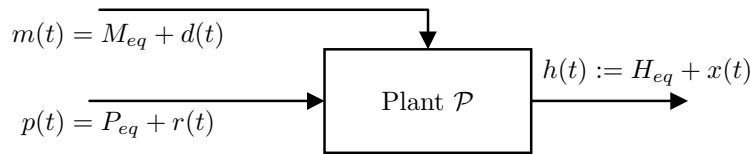

Figure 2: System plant \mathcal{P} , inputs and outputs, total and incremental variables.
- 3.5. **(L)** Nonlinear vs Linearized system. In this question are considered total variables, $p(t)$, $m(t)$ and $h(t)$ instead of just using incremental variables as in previous and next questions (see Fig. 2).